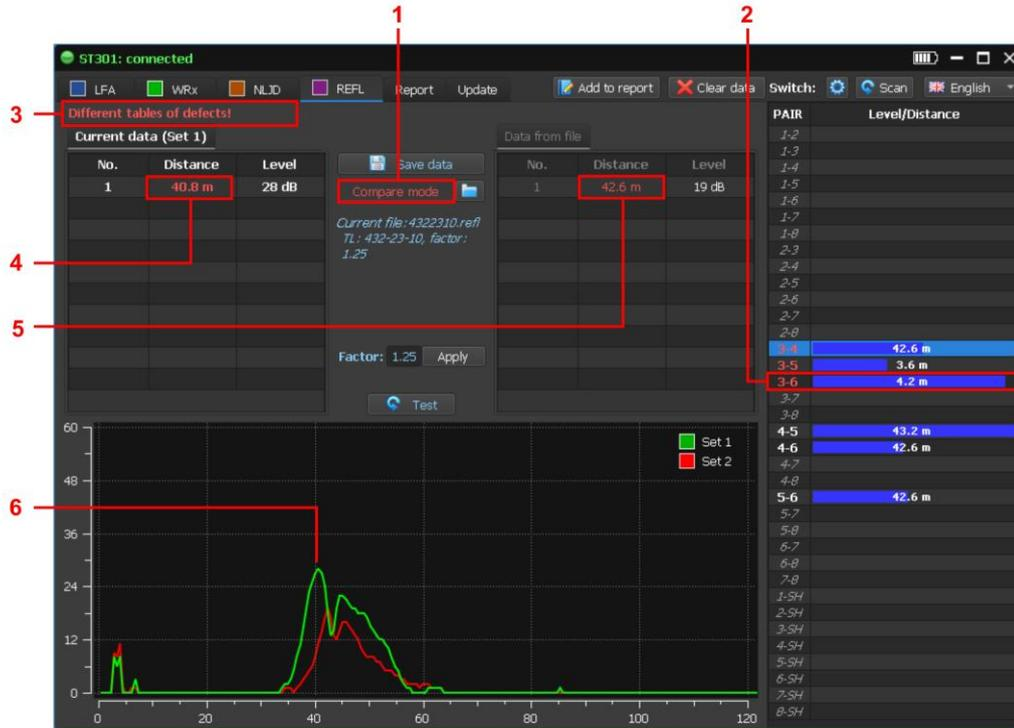

Fig.85
4. Click  The label on the button will turn red (Fig. 85, item 1). In the Switch table, the numbers of pairs in which changes are detected will be highlighted in red (Fig. 85, item 2). When setting the tabular cursor on such a row, the test results will be displayed in the "Set 1" and "Set 2" tables. Differing parameters will be highlighted in red (Fig. 85, item 4 and item 5). The information field (Fig. 85, item 3) displays the changes.
Two reflectograms will be displayed on the screen (Fig.85, item 6):
Fig. 85 (as an example) compares the test results of a telephone cable. The tabular cursor (Fig.85, item 2) is set to the pair "3-6" (the pair number is highlighted in red), where the changes were detected.
This heterogeneity is visible on the reflectogram (Fig.85, item 6).